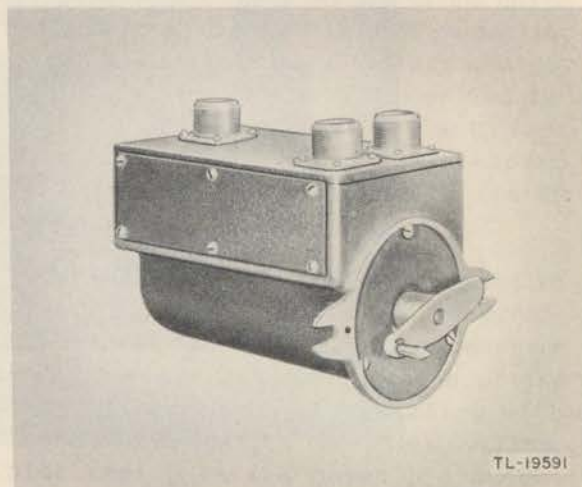

Figure 10. Goniometer CFT-47372.
c. Goniometer Navy No. CFT-47372. The goniometer is a rotating r-f transformer which combines the outputs of the antenna assemblies in the proper phase and amplitude relationships and supplies the output from a rotor to the directional input of the radio receiver. A photograph is shown in figure 10 and a circuit diagram in figure 81. The components of Goniometer CFT-47372 are inside a die-cast aluminum housing 8-1/8 by 5-3/4 by 5-3/4 inches. Three AN-3402-5P type receptacles on the top connect to h-f cables from the switching circuits in the junction box.